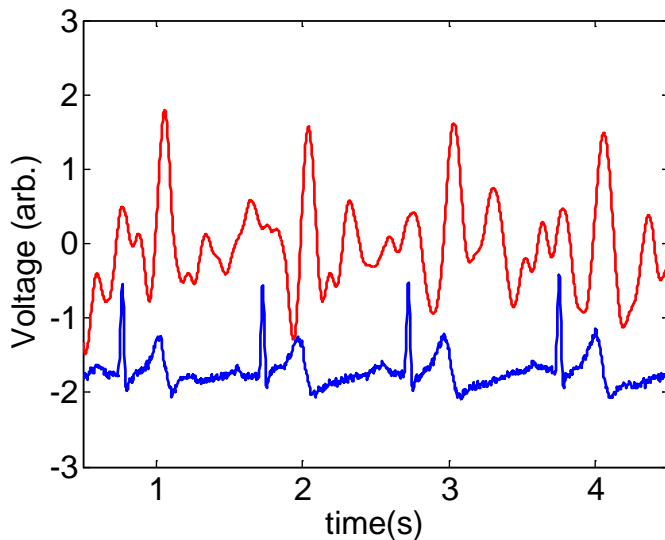

Figure 1: Comparison of EKG (blue) and BCG (red) signal. Note the regular correlation between the second hump of the EKG signal and the impulse from the BCG.
In this lab you will construct a circuit which can sense your heart rate from an ordinary bathroom scale. Known as a ballistocardiograph (BCG), the principle is that the reaction force at the ground fluctuates a little bit as the heart impulsively ejects blood with each beat. There is a slight recoil which we can sense. The principle is the same as if you stand on a scale and flap your arms, the weight the scale reads will go up and down. Since the measurement is so sensitive, we can do a simultaneous EKG which will help us identify and correlate the two signals, shown below in Figure 1.
2. A good clean BCG trace, similar to what is shown in Figure 1.